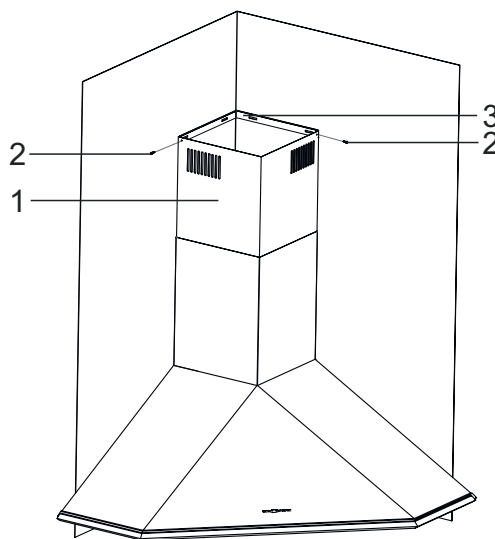

Fig. 16
- Affix the Inner Flue to the flue connection plate from its left and right sides with screws, by pulling it upwards (Fig. 16).